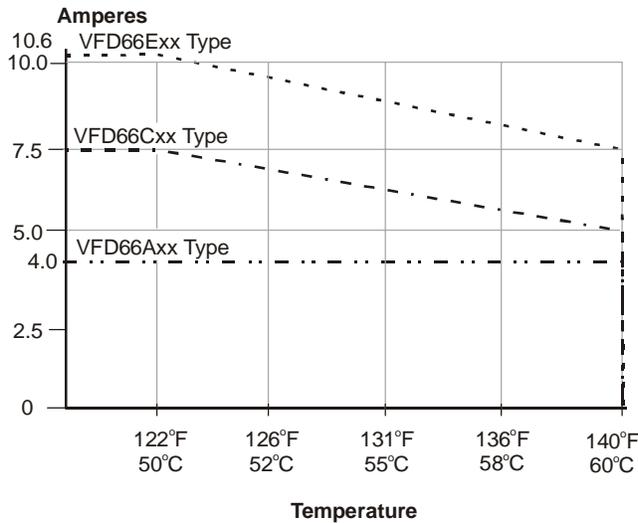
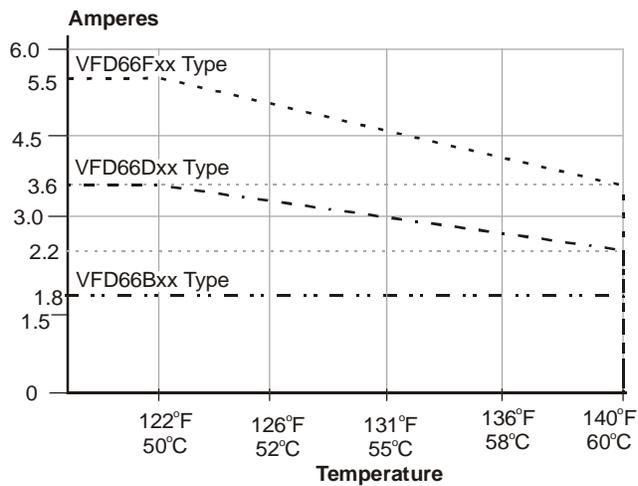

Figure 10: 208/230 VAC Temperature De-Rating
Figure 11: 400/460 VAC Temperature De-Rating
See Figure 10 for temperature de-rating for 208/230 VAC models. See Figure 11 for temperature de-rating for 400/460 VAC models.
For these examples, the control used is a VFD66Exx type. See Figure 10, Figure 11, and Table 5.
- If the temperature around the VFD66 control reaches 140°F (60°C), the rating is different. According to Figure 10, the VFD66 control is rated for only 7.5 amperes at 140°F (60°C).